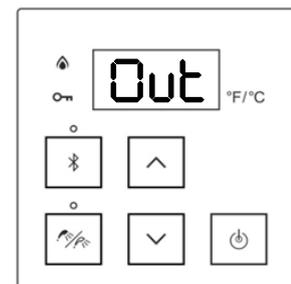

Figure 57:
- 5(B). **If you install the tankless water heater outdoors with the Rinnai Versa-Vent™, outdoor vent cap:** Press the up or down arrow buttons. The controller displays “Out” (Outdoor) (Figure 57).